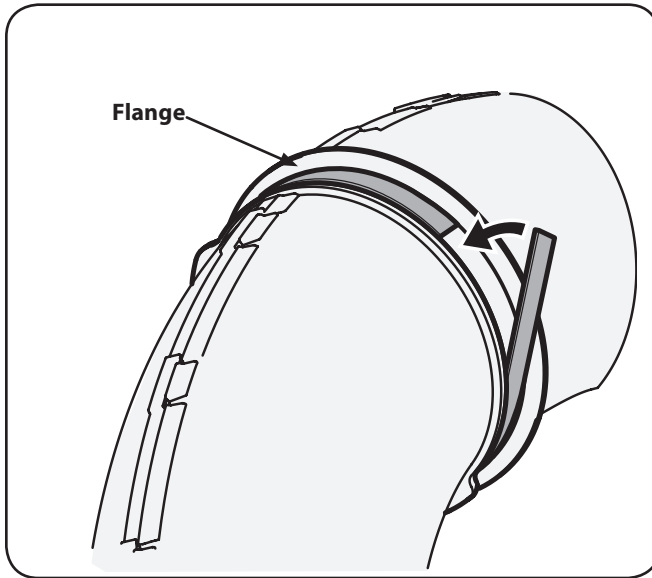

**Figure 4-18**
4. With the tractor's discharge chute raised up and held open, install the chute elbow over the chute opening by placing the deck mounting pin in the hole provided, as shown in the upper inset of Figure 4-18, then secure the elbow to the deck by hooking the retainer strap torsion spring hook over the deck wheel mounting bracket as shown in Figure 4-17.
**Note:** On decks without deck wheels, hook the retainer strap into the hole provided in the flange on the front-side of the cutting deck. See Figure 4-18.